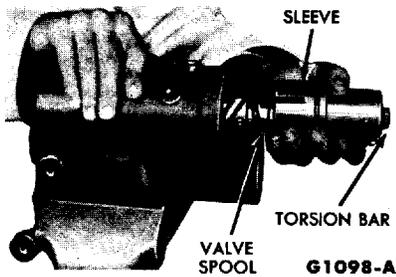

FIG. 11—Torsion Bar and Sleeve Removal
12. Remove the torsion bar and sleeve assembly (Fig. 11) by lightly tapping on the lower end of the torsion bar with a soft-faced hammer.